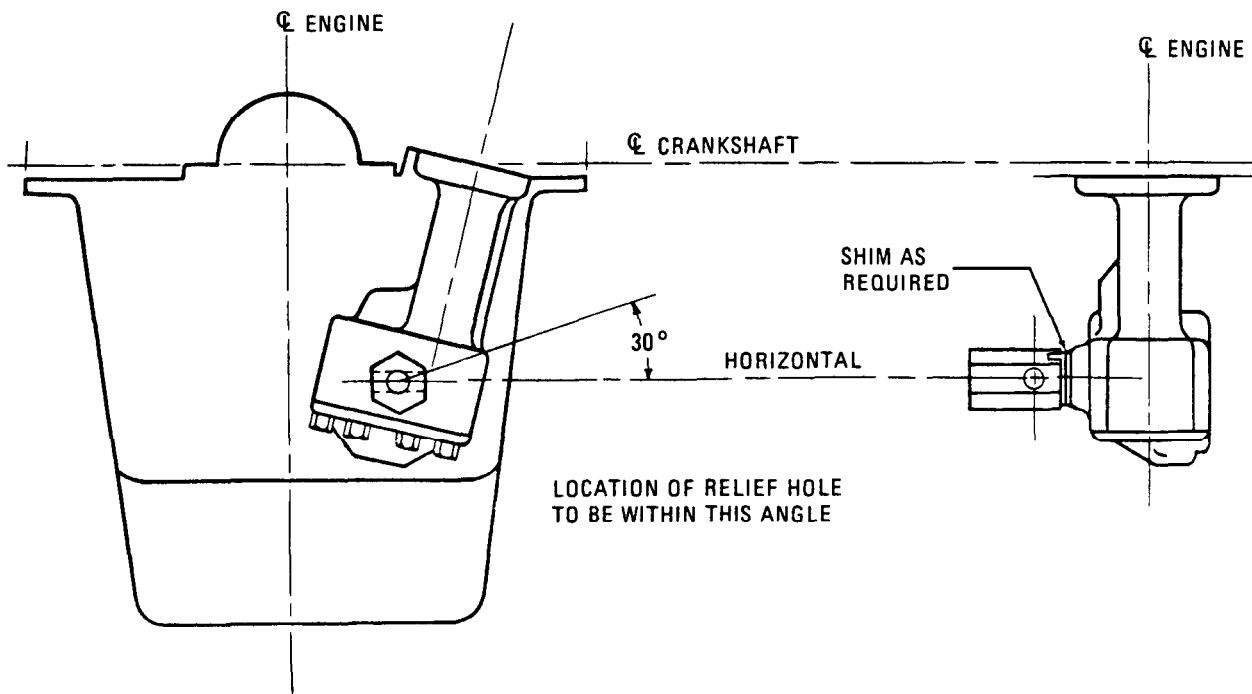

Figure 3-8. Oil Pressure Regulator Installation
e. When inserting oil pump (1) into cylinder block, make sure arrow on oil pump gear is aligned with arrow on fuel pump attaching pad. Positions of arrows are same when timing to cylinder number one, four, or six. Secure pump (1) with two bolts (14) and lockwashers (15). Tighten bolts securely but not excessively.
f. Install oil pump strainer (16) on pump impeller cover by turning in clockwise. Do not apply force against screen.
g. Install 65 psi oil pressure regulator (11) with a new lockwasher (12). Regulator must be turned so that relief hole is aligned within 30° of horizontal (see figure 3-8). This position will prevent oil from spraying up into cylinder bore, and will direct the spray toward the center of engine and against oil pan surface. If oil pressure regulator is in an incorrect position when tightened, add shims (13, figure 3-6) until proper alignment is achieved.